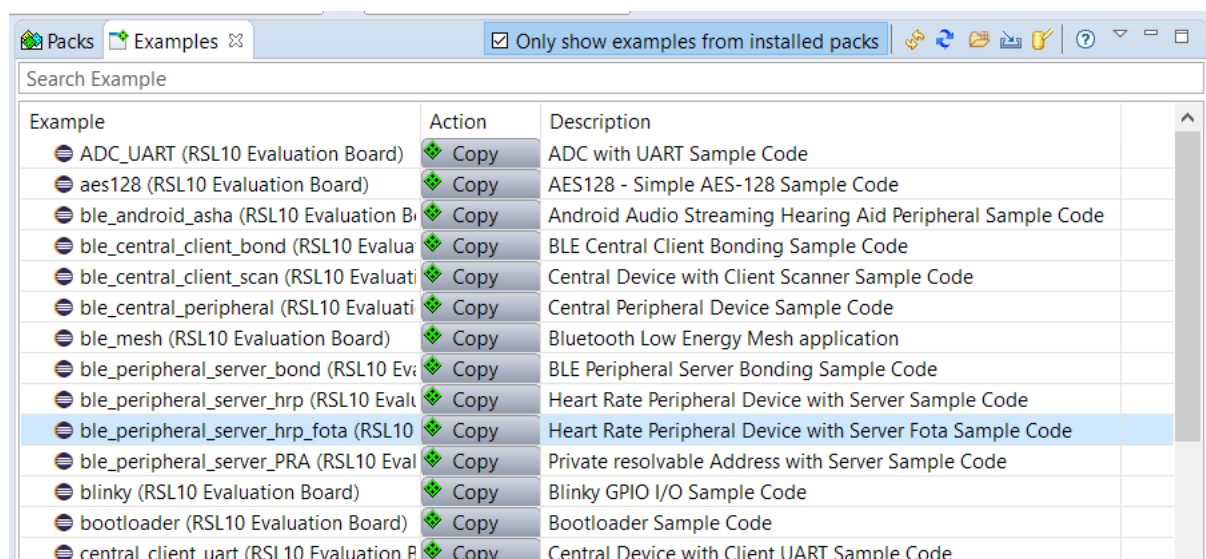

Figure 3. Importing the FOTA Sample Project
2. Find the *ble_peripheral_server_hrp_fota* example project and click the **Copy** button to import it into your workspace. (See Figure 3.)